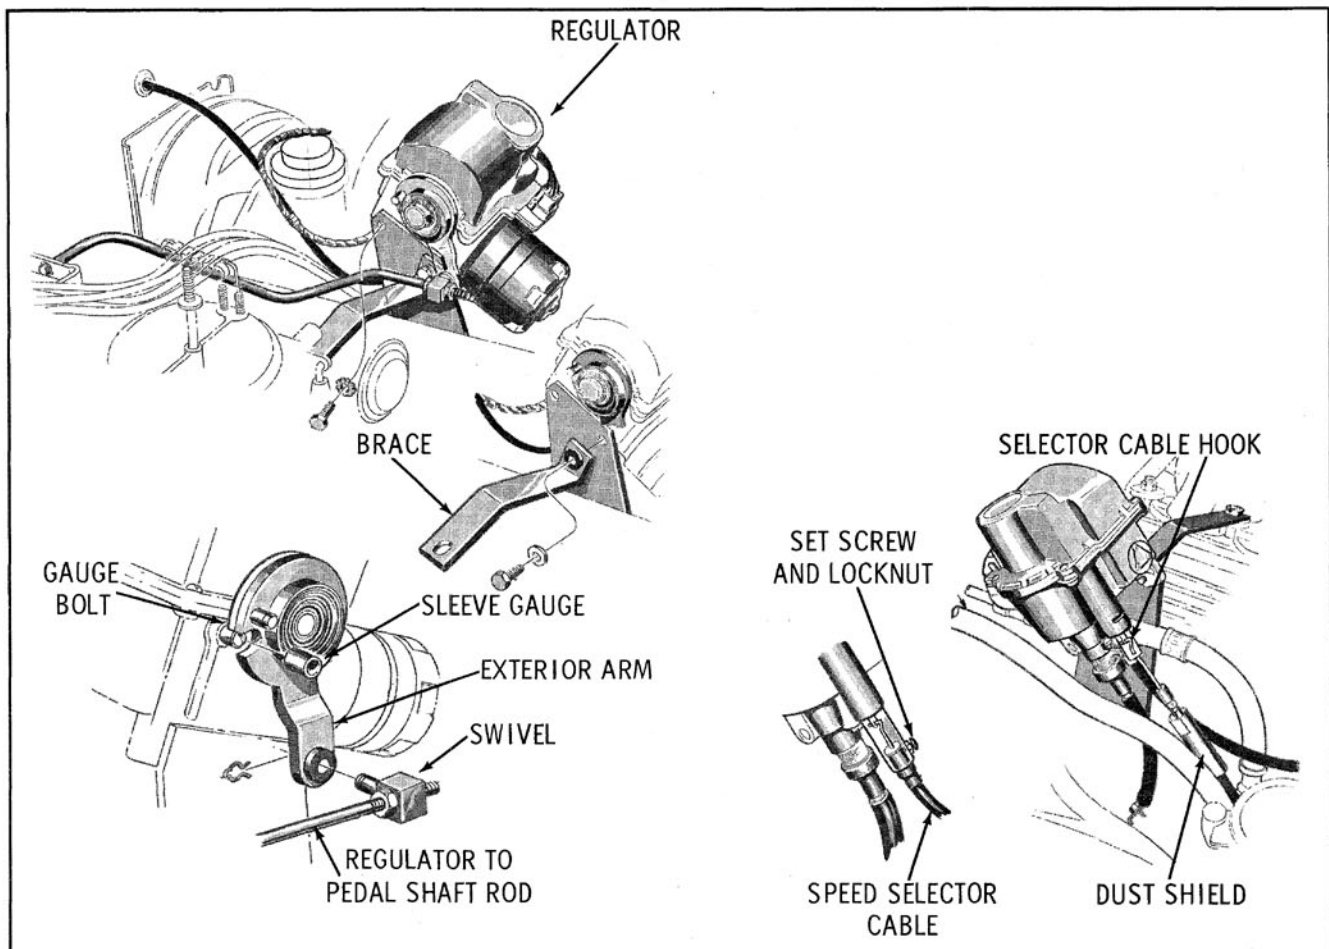

Fig. 12-47 Linkage Adjustment (33, 34, 35, 36, 38 & 39)
CONTROL CABLE ADJUSTMENT (Fig. 12-47)
3. Line up locating hole in exterior arm with gauge bolt and install Sleeve Gauge J-7652, over gauge bolt. (Figs. 12-47 or 12-48)